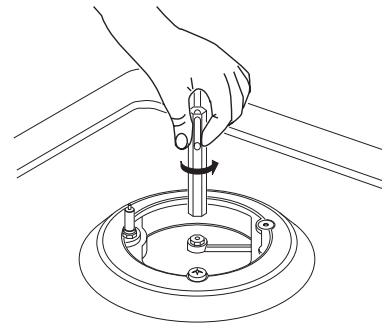

Fig. 1A
- change the injector (see Fig. 1A) and replace it with another one suitable for the new type of gas (see tab. 1)